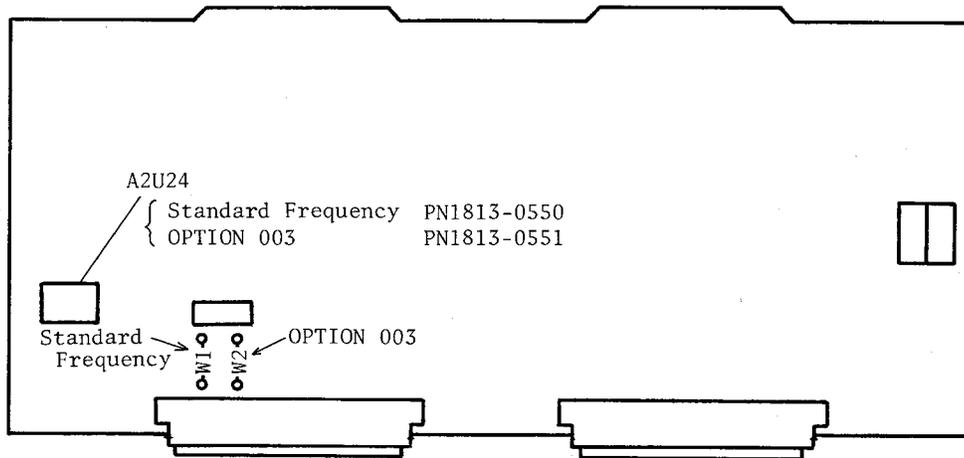

Figure 2-4. Location of A2U24
3. Change the parts for A2U24 to the 8.08MHz Clock Oscillator (PN 1813-0551) from 8.00MHz Clock Oscillator (PN 1813-0550). Figure 2-4 shows the location of A2U24.
4. Disconnect the jumper soldered at position W1, and solder it to position W2 (See Figure 2-4).